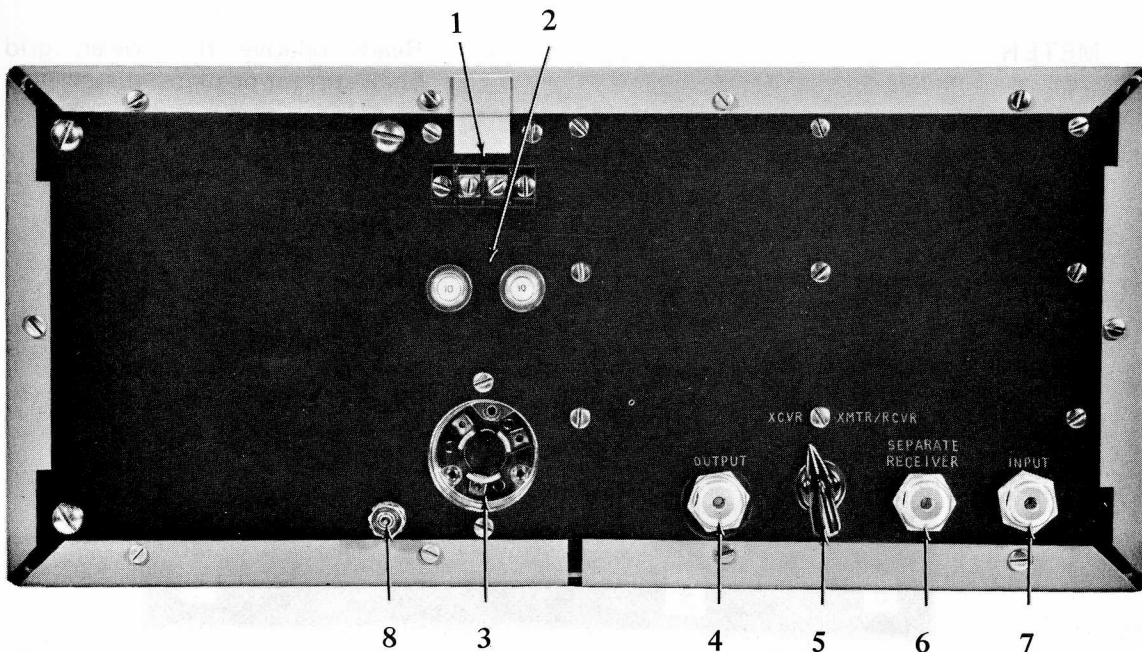

Figure 2. Rear Panel View.
* Terminals 1 and 2 (1 on Figure 2) must be connected to normally closed transceiver or transmitter push-to-talk relay contacts.
* The Tempo 2000 INPUT connector (7 on Figure 2) must be connected to the transceiver or transmitter ANTENNA jack. (Refer to Section 4.6.1.)
* Connect the receiver (if used) ANTENNA connector to the Tempo 2000 RCVR connector (6 on Figure 2.)
* Rotate the rear panel switch (5 on Figure 2) to the XCVR position (for a transceiver exciter) or RCVR/XMTR (for a separate receiver and transmitter.)